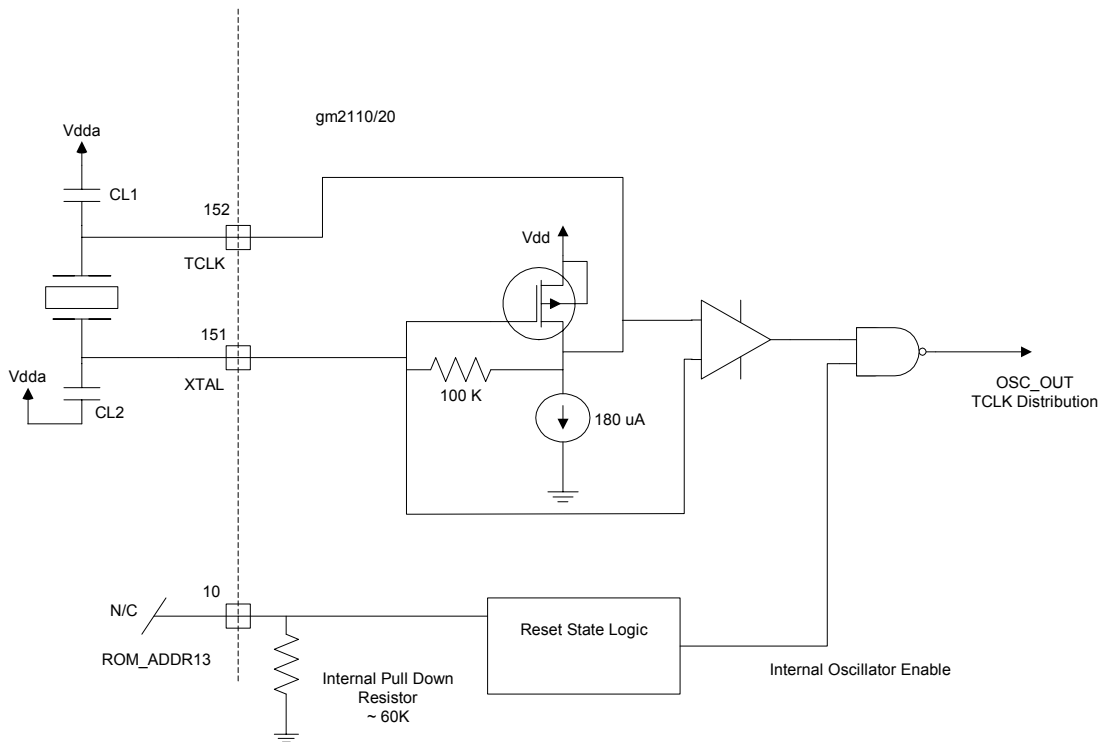
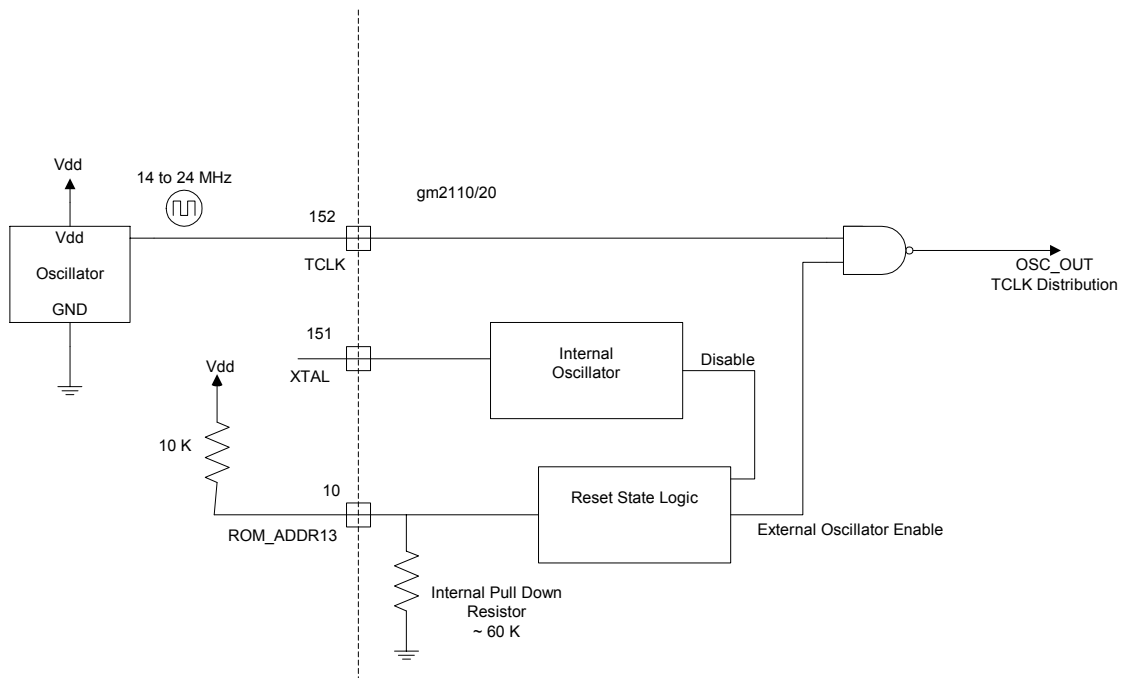

Figure 4. Using the Internal Oscillator with External Crystal
Figure 7. Using an External Single-ended Clock Oscillator
1. Crystal Input Clock (TCLK and XTAL). This is the input pair to an internal crystal oscillator and corresponding logic. A 14.3 MHz TV crystal is recommended. Other crystal frequencies may be used, but require custom programming. This is illustrated in Figure 4 below. Alternatively, a single-ended TTL/CMOS clock oscillator can be driven into the TCLK pin (leave XTAL as N/C in this case). This is illustrated in Figure 7 below. This option is selected by connecting a 10KΩ pull-up to ROM_ADDR13 (refer to Table 16). See also Table 13.
Another option for providing the reference clock is to use a single-ended external clock oscillator. When the gm2110/20 is in reset, the state of the ROM_ADDR13 (pin 10) is sampled. If ROM_ADDR13 is pulled high by connecting to VDD through a pull-up resistor (15KΩ recommended, 15KΩ maximum) then external oscillator mode is enabled. In this mode the internal oscillator circuit is disabled and the external oscillator signal that is connected to the TCLK pin (pin number 152) is routed to an internal clock buffer. This is illustrated in Figure 7.